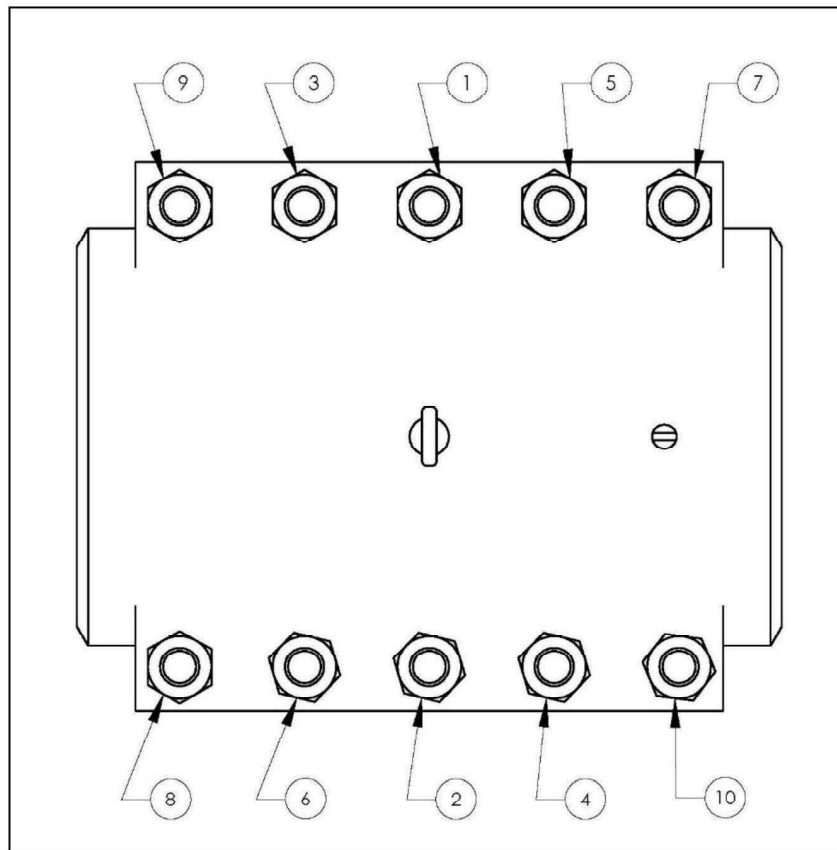

Figure 9
7. Torque the studs uniformly as indicated by the corresponding value per stud size from the **PLIDCO Torque Chart** located on page 14 of these instructions. The best results are obtained by maintaining an equal gap all around the side bars while tightening the studs. Ensure there is full thread engagement by having a minimum of 1/4 inch (6.4 mm) of stud extending beyond the nut. The sequence for torquing the studs should follow the pattern as shown in Figure 9, and should be executed repeatedly as follows: